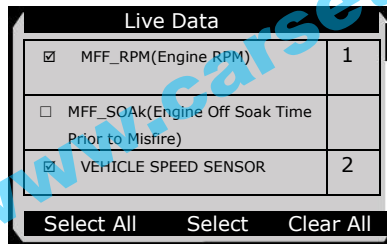

Figure 5.27
- 1) To view live data, use the **UP/DOWN** scroll button to select **Live Data** from **Function Menu** screen (Figure 5.27), and press **OK** button. The screen will show as below.